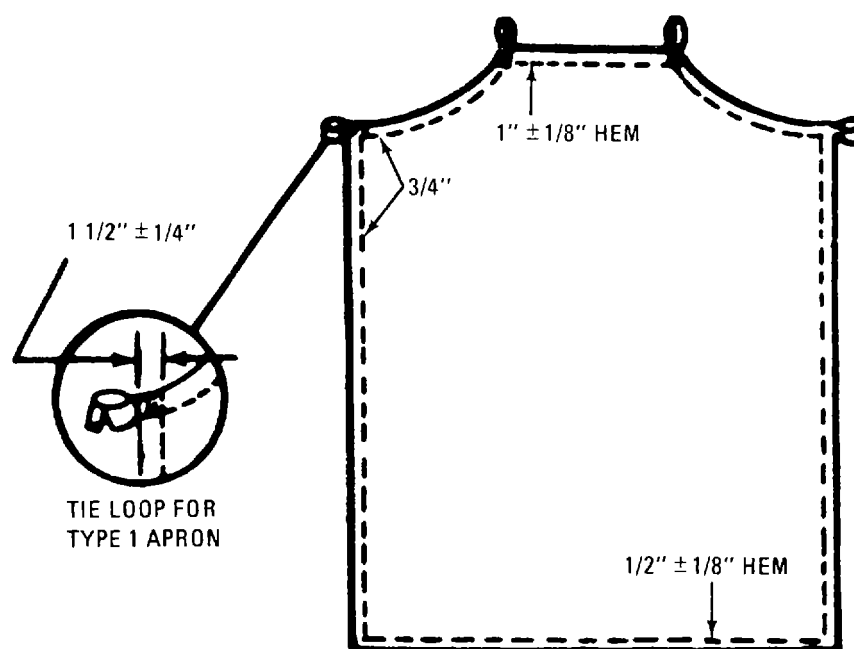

Figure 7-1. Apron, Food handlers, type 1.
- a. Apron, Food Handler's, cotton drill, white; conforming to FED. DDD-A-616, Type I: NSN 8415-00-255-8577. This item is fabricated of 6.5 ounce white cotton drill. It is a bib type apron with neck loop and tie strings at waist for fastening. The apron is 46 inches (116.84 cm) long by 36 inches (91.44 cm) wide (see figure 7-1).